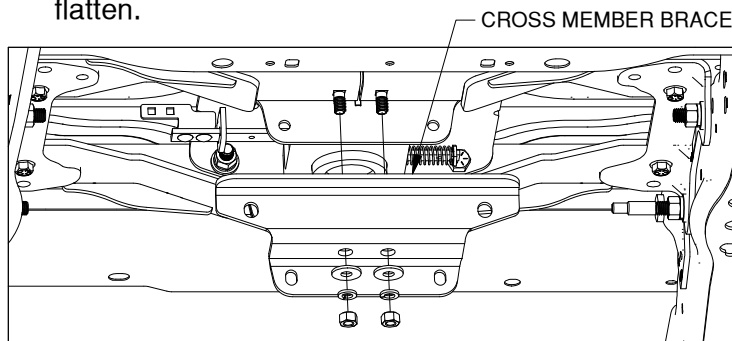

Figure D4: View looking up under the truck bed.
- 4. Place the second cross member brace.** Locate a cross member brace and two 1/2" flat washers, lock washers, and finish nuts. Hold the two rear cross members up so that the carriage bolts are in line with each other. Place the cross member brace over two 1/2" carriage bolts, as shown in Figure D4. Attach the brace with the 1/2" hardware. Push the brace tight against the cross members, then tighten the 1/2" nuts on the carriage bolts until the lock washers start to flatten.